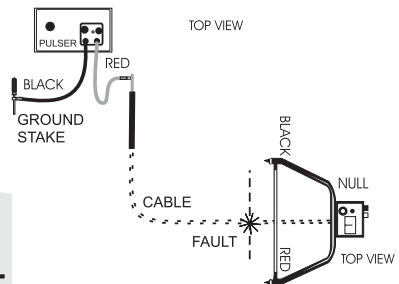

Figure 5. Nulling Receiver -
*Note: Receiver will null when probes evenly straddle the fault. Mark this spot. (See Figure 5.)*